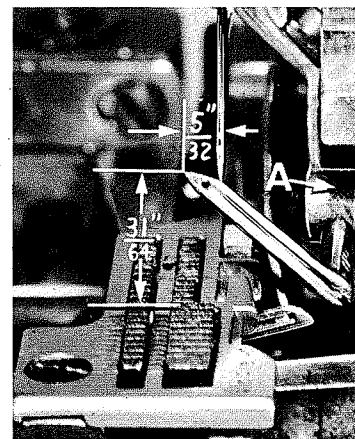

Fig. 10
resetting is necessary, do it by moving the upper looper holder (A, Fig. 10). Figure 10 represents the dimensional setting for Styles 39500 FA, FB, GS, JE and JG.
If it becomes necessary to move looper thread pull-off (AF), be sure to take up all end play in needle drive shaft before tightening. If upper looper is located so that it is higher over throat plate than recommended in Fig. 10, the purl will tend to form near top edge. If upper looper is too low, the purl will form nearer bottom edge.